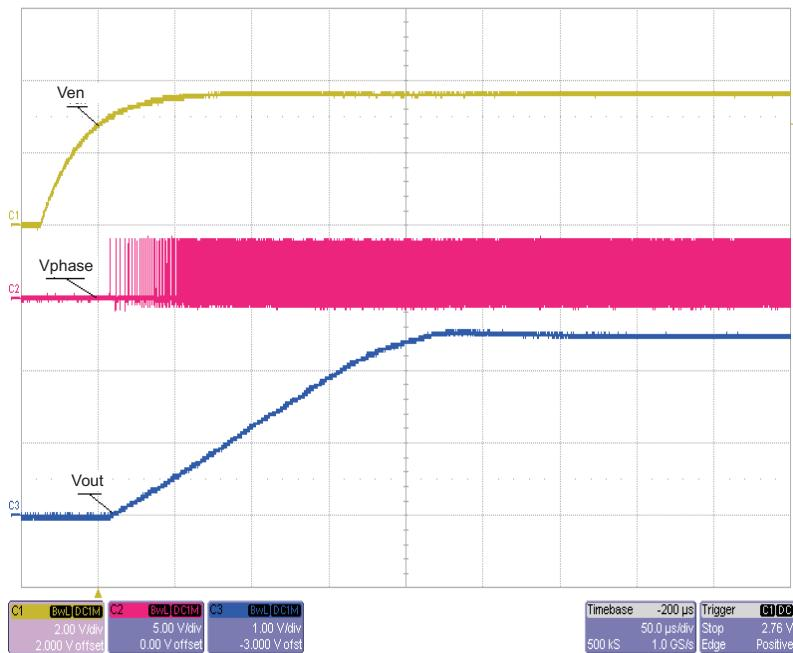

Figure 10. Power-up Output With EN pin. Vin = 4 V, Vout = 2.5 V, Iout = 0.5 A; CH1 = Input Voltage; CH2 = Phase; CH3 = Output Voltage
11. Set Scope to positive trigger, arm scope and remove short between JP2-1/2. The captured waveform shows output power up by pulling EN high (Figure 10)